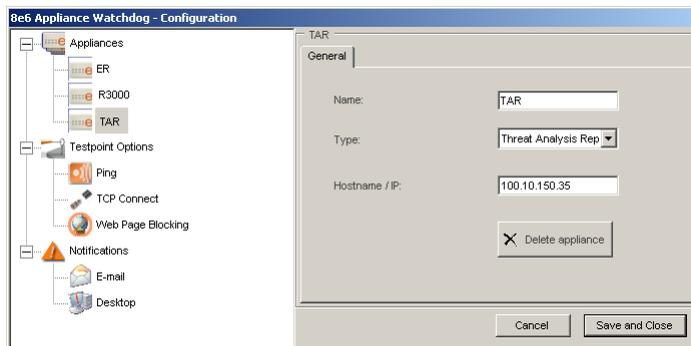

Fig. 1:3-6 Delete an appliance
4. After all appliances to be deleted have been removed from the tree, click **Save and Close** to stop the service, remove the configuration for the appliance(s) from Watchdog, and to display the restart service pop-up box (see Fig. 1:3-3).
When the service has restarted, the console re-opens, displaying the refreshed Status screen (see Fig. 1:3-4).